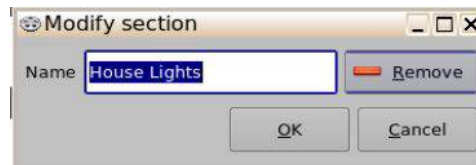

Figure 83: New Action Window
- Click on the Remove button on the Modify Section window to remove the section from the list (Figure 83).